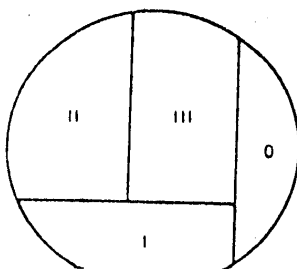
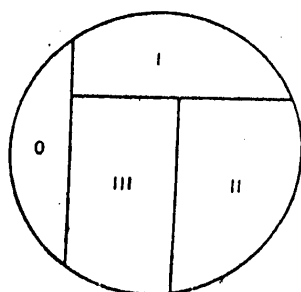

Figure 8-2 : Dilution sectors as drawn on paper.
FIGURE 8-8
- 2- Line and label the circle exactly as in Figure 8-2.
- Take careful note of the different position of the sectors as compared with their position in Figure 8-2. *note well* that the position of Sector I is reversed while the petri dish is upside down; that is, Sector I is now on the bottom instead of on the top.
- The marking now appears as shown in Figure 8-8, and the sector positions are now exactly as in Figure 8-2.